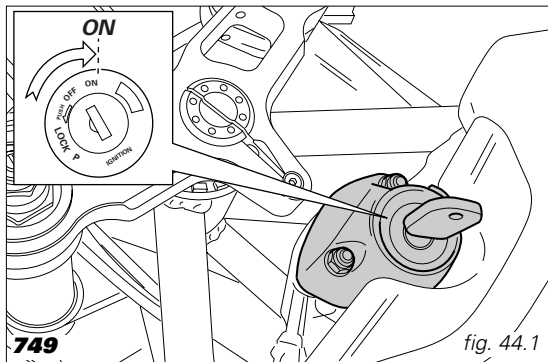

fig. 44.1
1) Move the ignition key to **ON** (fig. 44.1- 44.2). Make sure both the green light **N** and the red light  on the instrument panel come on.